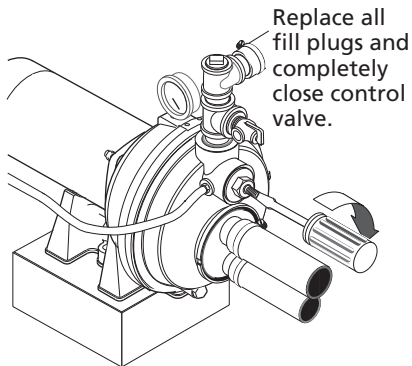

Figure 16 – Prime Pump
2. Replace all fill plugs and close the control valve completely (See Figure 16).